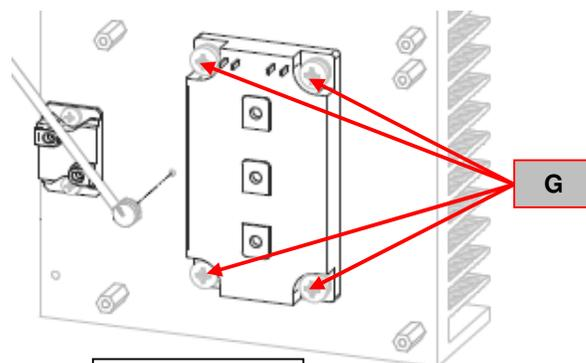

Figure 38
13. Using the phillips screwdriver remove the 4 screws (**G**) that fix the IGBT module to the heat sink. See **Figure 38**